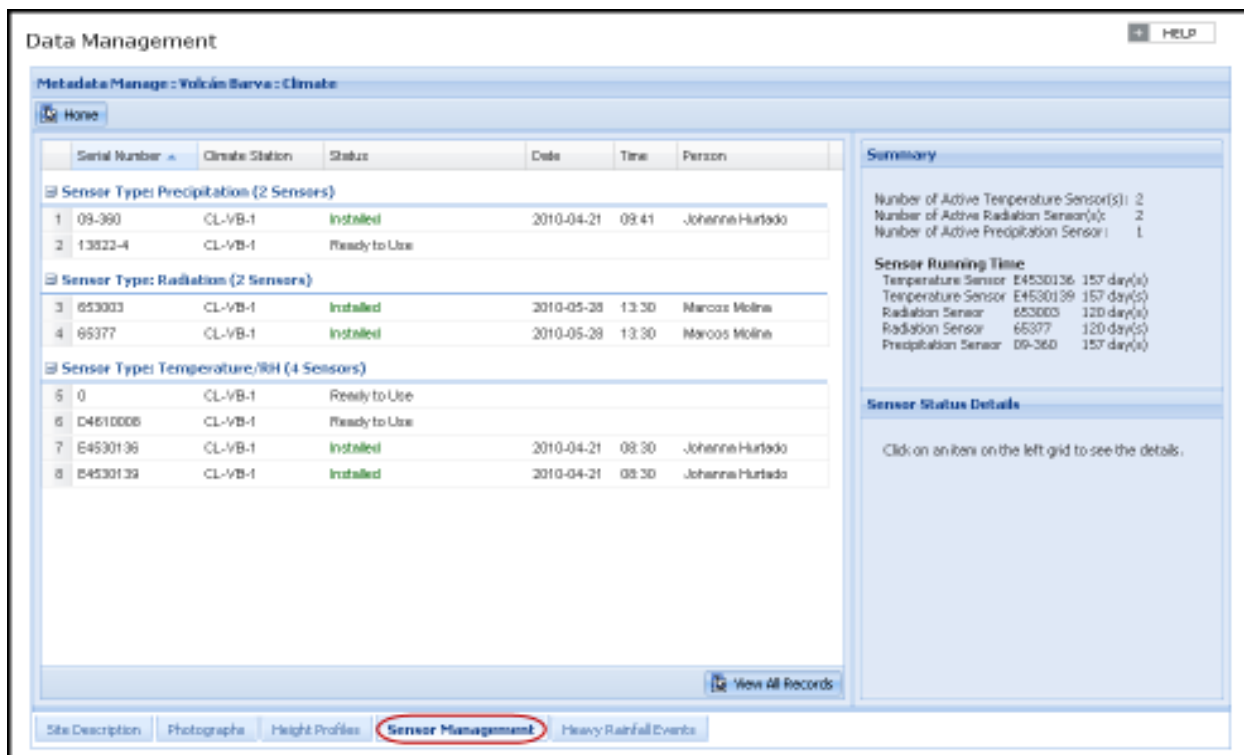

Figure 7. Screenshot of the "Sensor Management" home screen.
- f) Select the “Sensor Management” tab from the bottom of the page (see Figure 7 below) and **double-click** in the “Status” column next to the sensor that is being calibrated (it should say “Installed”).